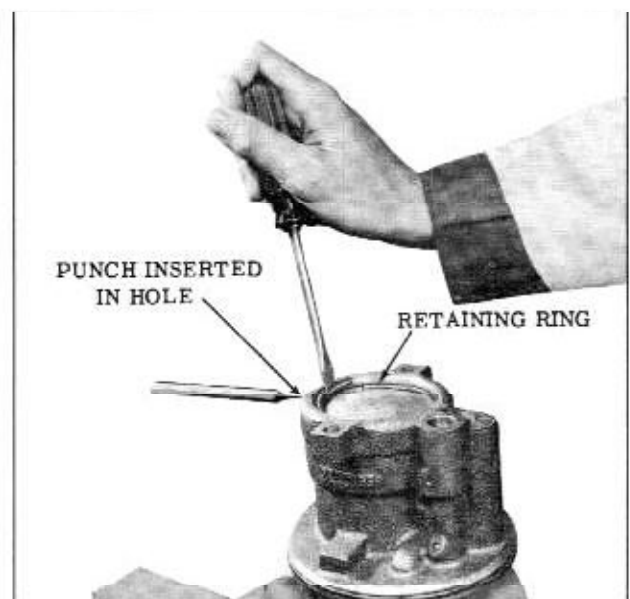

Fig. 4-25 Removing End Cover Retaining Ring
6. Rotate the end cover retainer ring so that one end of the ring is over the hole in the side of body, then force end of ring from its groove and remove ring. (Fig. 4-25)